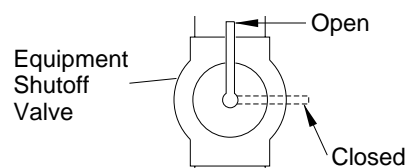

Figure 20 - Equipment Shutoff Valve
- Close equipment shutoff valve (see Figure 20).
- Open equipment shutoff valve (see Figure 20).